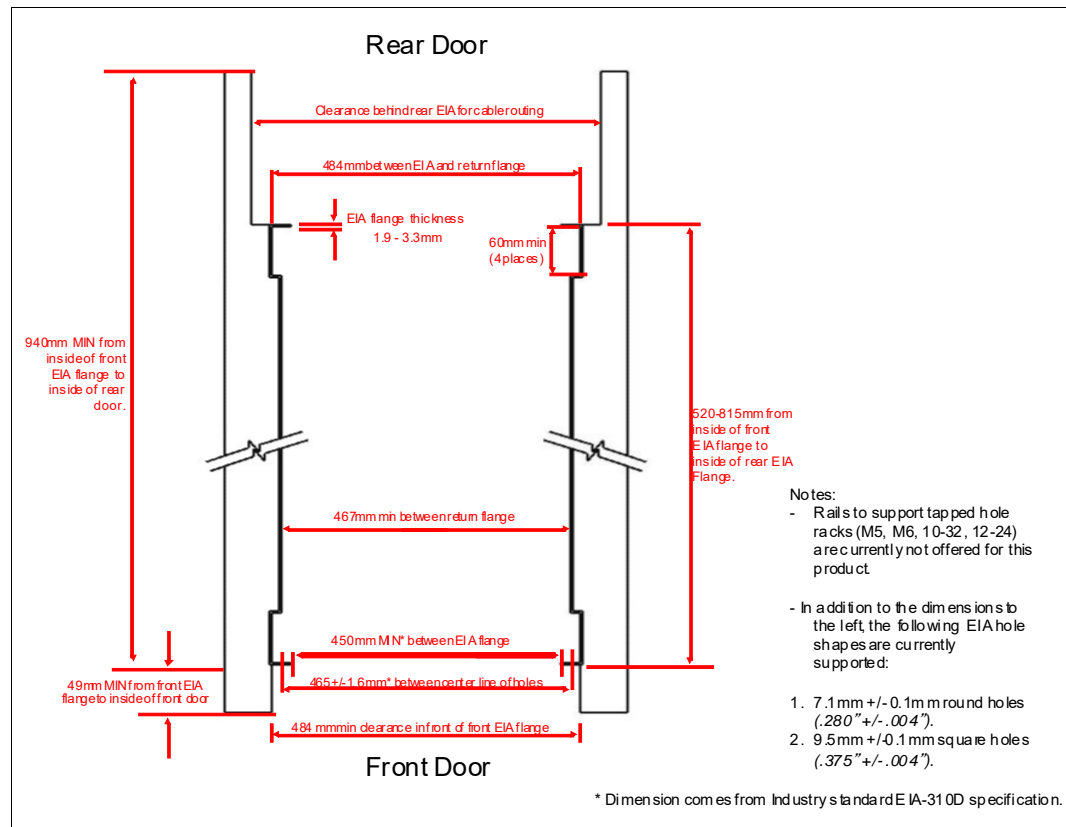

Figure 1-15 Top view of the rack specification dimensions (not specific to IBM)
- The front rack opening must be 451 mm wide \pm 0.75 mm (17.75 in. \pm 0.03 in.), and the rail-mounting holes must be 465 mm \pm 0.8 mm (18.3 in. \pm 0.03 in.) apart on-center (that is, the horizontal width between the vertical columns of holes on the two front-mounting flanges and on the two rear-mounting flanges). Figure 1-15 is a top view showing the specification dimensions.